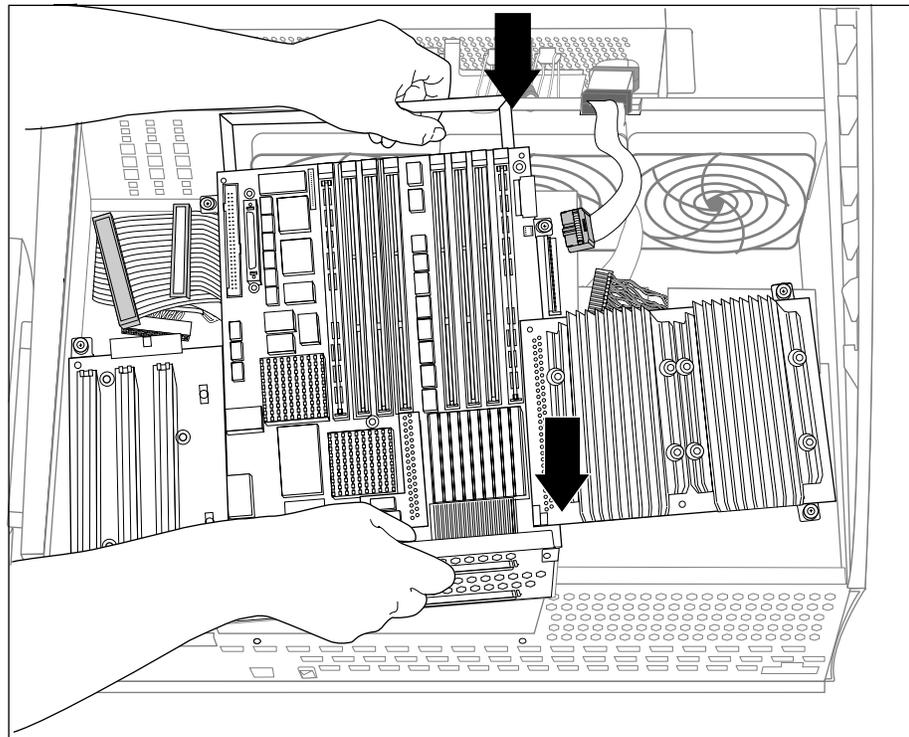

Figure 5-9 Lowering a Logic Carrier Into the System
1. Lower the new logic carrier into the system, as shown in Figure 5-9.